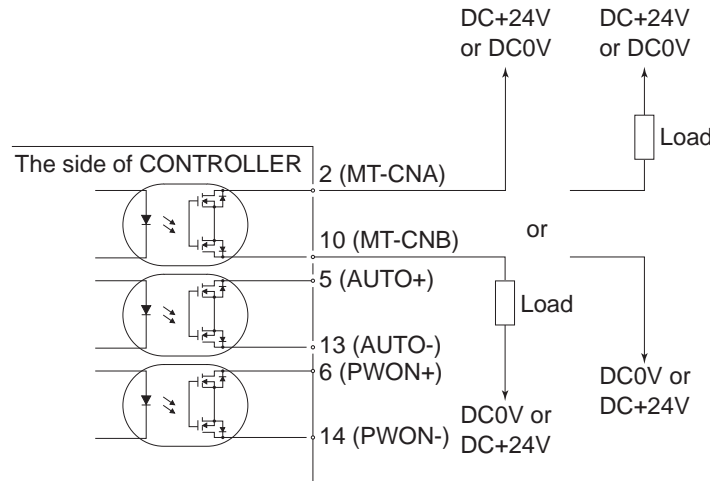

Fig. 30
- Applied Voltage (V) \leq DC+30V
Use an external power source for output circuits. It is recommended to use a separate power supply Input / Output Connector B ④. Please refer to Fig. 30 for connections.